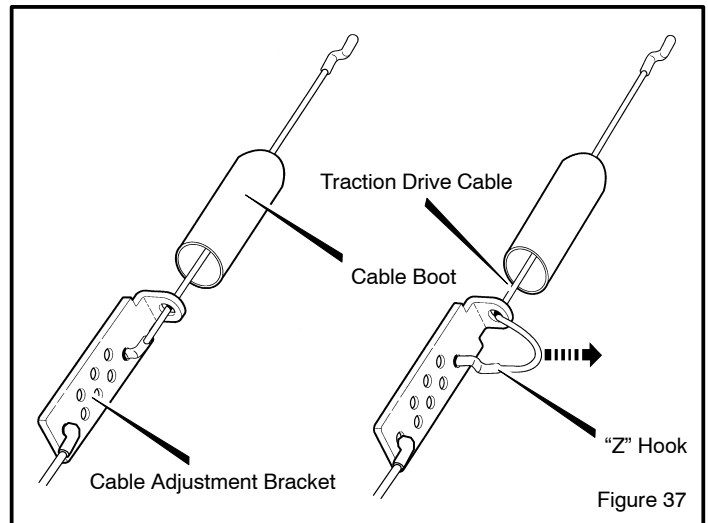

Figure 37
4. Slide the **cable boot** off the **cable adjustment bracket** (see Figure 37).